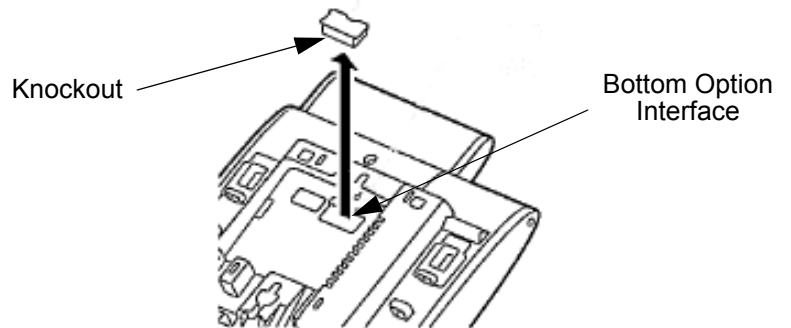

Figure 6-31 Bottom Option Interface Knockout
6. Carefully pry loose the knockout covering the bottom option interface (refer to Figure 6-31 Bottom Option Interface Knockout on page 6-41).